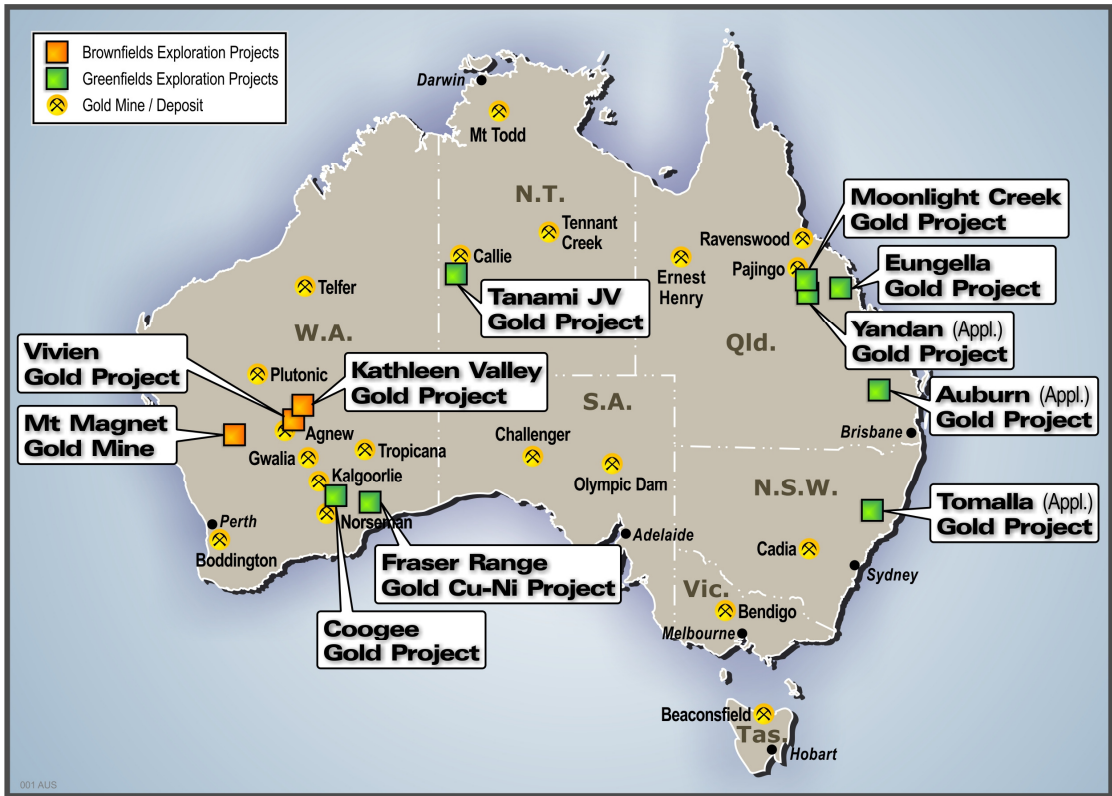

Figure 1: Ramelius' Australian exploration projects
Gold producer, Ramelius Resources Limited (**ASX: RMS**) is pleased to announce that significant high grade gold has been intersected at the Company's Blackmans gold project, located 30km north of Mt Magnet in Western Australia (Figures 1 & 2).
Highly encouraging exploration assay results have been returned from Reverse Circulation (RC) drilling completed at the Coogee gold project, located south of Kalgoorlie in Western Australia (Figure 1).